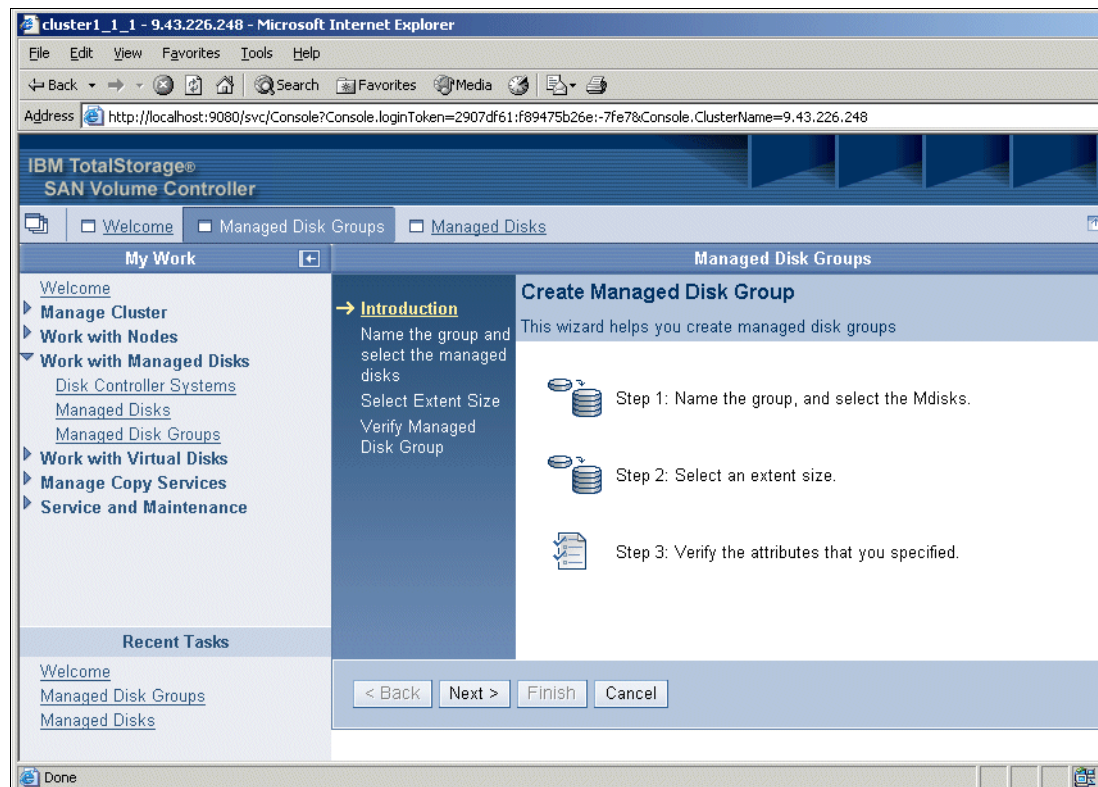

Figure 6-26 Create Managed Disk Group panel
4. On the Create Managed Disk Group panel (Figure 6-26), click **Next**.